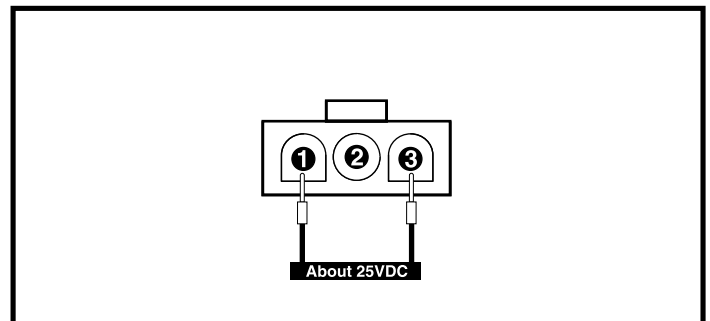

Figure 13. Connector 10a
21. Measure voltage across pin 1 and pin 3 of connector 10a. See figure 13.
- If your multimeter indicates total battery voltage (about 25VDC), then replace the battery charger (9) and retest the system.